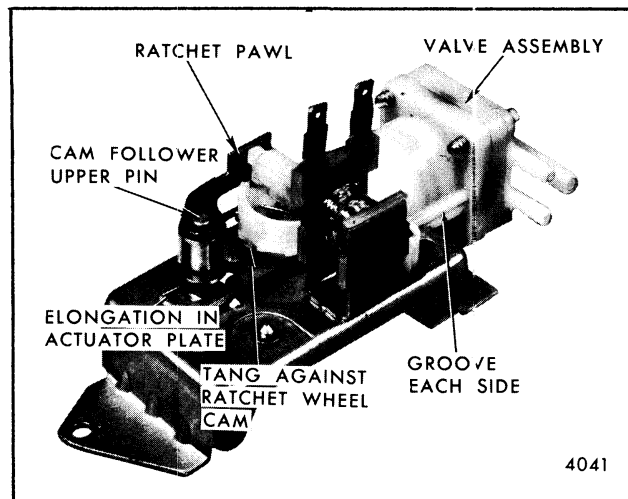

Fig. 2-59-Actuator Plate
The cam follower actually has two pins - an upper and lower. The lower or bottom pin is actuated by the four lobe cam. The upper pin, which extends through an elongated opening in the piston actuator plate has a ratchet pawl assembled on it (Fig. 2-59). Thus, whenever the wiper motor is running, the four lobe cam is rotating and in turn actuates the cam follower assembly. However, no pumping action occurs because the washer pump pumping mechanism is held in a "lock-out" position.
Referring to Figure 2-59, note that the piston actuator plate has a tang that is resting against a ramp on the lower surface of the ratchet wheel. This tang holds the spring loaded piston actuator plate in a retracted position. With the actuator plate held in a retracted position, the cam follower upper pin will merely move back and forth in the actuator plate elongated opening and no pumping action occurs. The ratchet pawl is held away from the ratchet wheel by a spring loaded solenoid plunger.
2. The ramp on the lower surface of the ratchet wheel has moved to a position where it is holding the piston actuator plate in a lock-out position (Fig. 2-59).